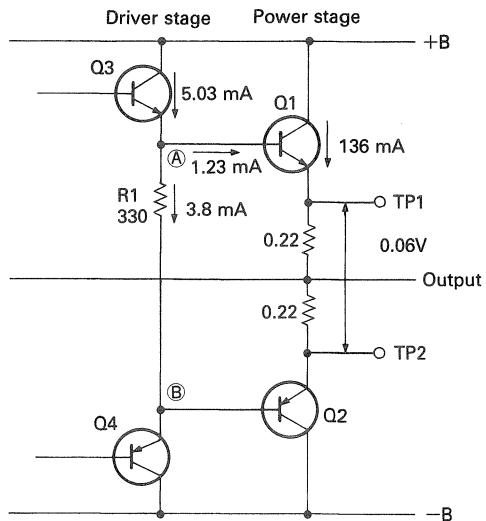

Fig. 4 Circuit (c) — Emitters Floating
In the circuit (c) R1 inserted between the emitters of Q3 and Q4 is for maintaining idle current in Q3 and Q4 to avoid non-linear range of transistor amplification characteristic. The current has been made about 5—10mA. In Fig. 4, when the potential difference between TP1 and TP2 is set to 60mV, Q1's collector current becomes 136mA. Q1's Hfe is 110. Then the base current becomes 1.23mA. To flow 5mA current in Q3, the current from (A) to (B) should be 3.8mA. To make a current of 3.8mA in R1, the potential difference between (A) and (B) should be 1.26V (0.6 + 0.06 + 0.6). So R1 should be 330Ω.